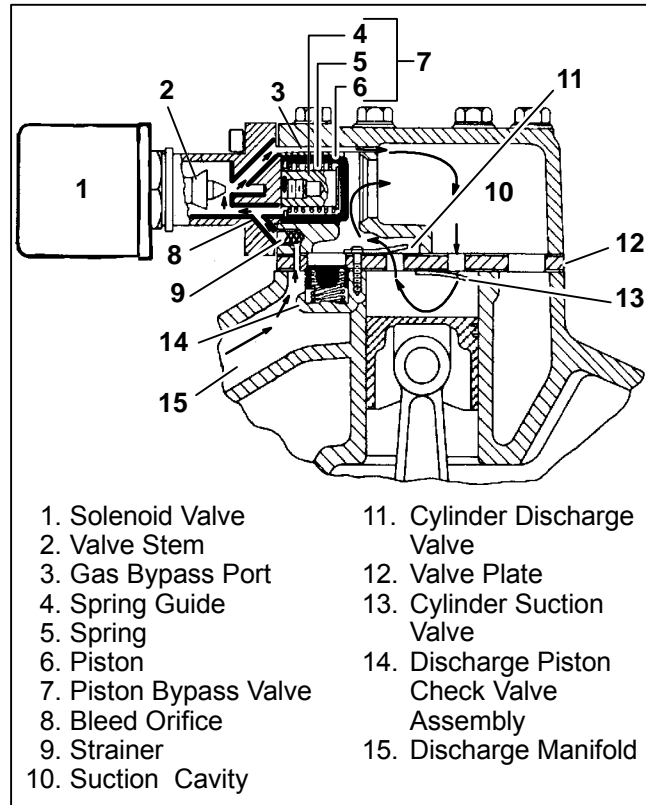

Figure 1-6. Electric-Operated Unloader- Unloaded Operation
The capacity controlled cylinder is easily identified by an electric solenoid which extends from the side of the cylinder head. When the solenoid energizes, the cylinder unloads allowing discharge gas to circulate as shown in Figure 1-6. The unloaded cylinder operates with little or no pressure differential, consuming very little power. A de-energized solenoid reloads the cylinder as shown in Figure 1-7.
Pressure from the discharge manifold (Figure 1-6, item 15) passes through the strainer (9) and bleed orifice (8) to the back of the piston bypass valve (7). Unless bled away, this pressure would tend to close the piston (6) against the piston spring (5) pressure.